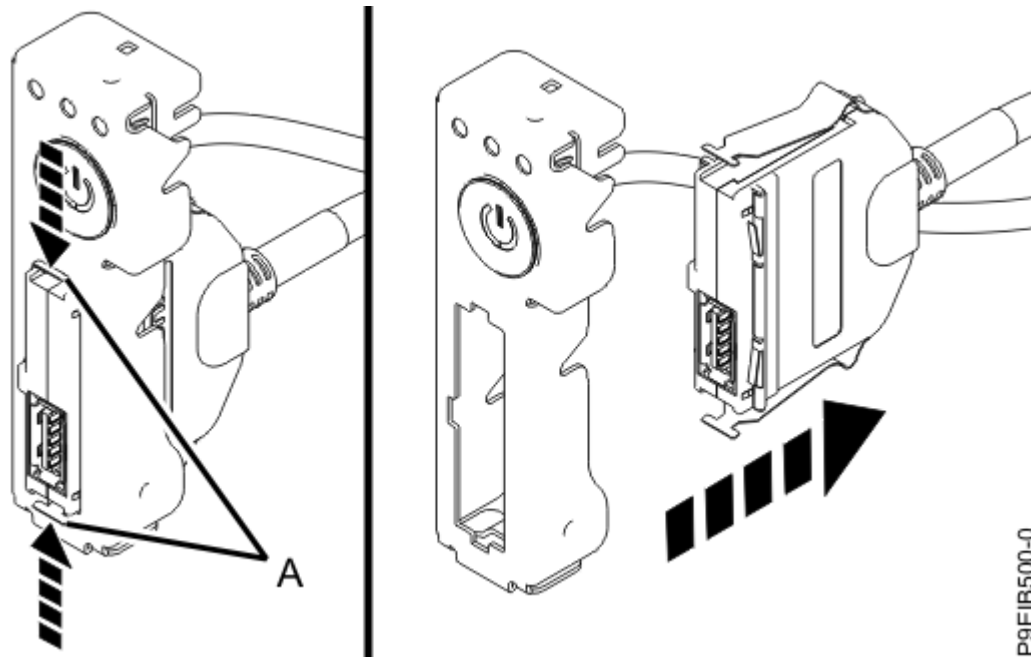

Figure 104. Removing USB cable and connector from the power switch
10. Pressing the latch releases **(A)** on the connector, disconnect the USB cable and connector from the power switch as shown in Figure 104 on page 124.